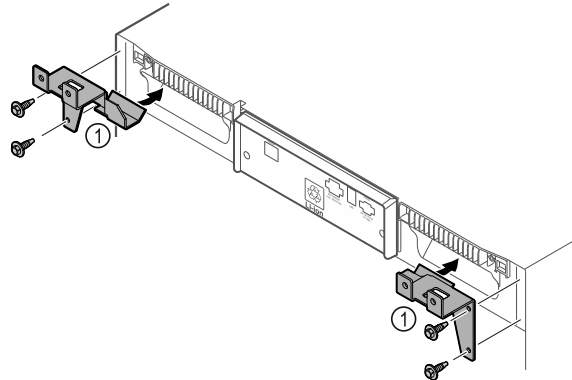

Fig. 51
- ▶ Fit the retaining parts Fig. 51 (1) to the device with self-tapping screws.